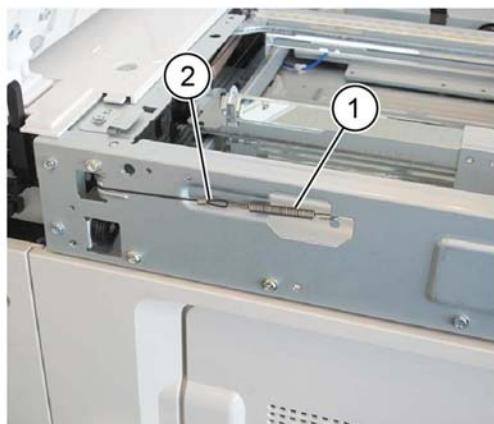

Figure 4 Preparation
8. Prepare to remove the carriage cable, **Figure 4**:
- a. Unhook the extension spring (1) from the frame.
- b. Detach the cable (2) from the extension spring.